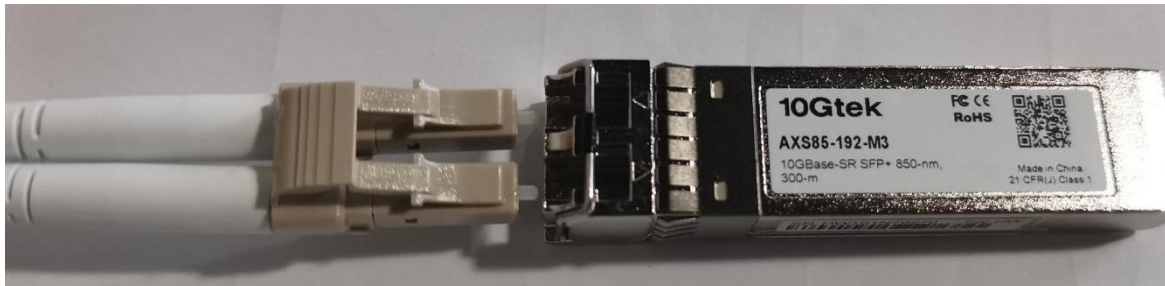

Figure 3-9 Connect the optical fiber to the SFP+ optical module.
1) Insert the LC patch cord into the SFP+ optical module as shown in Figure 3-9. The interface features a foolproof design, so pay attention to the insertion direction. After